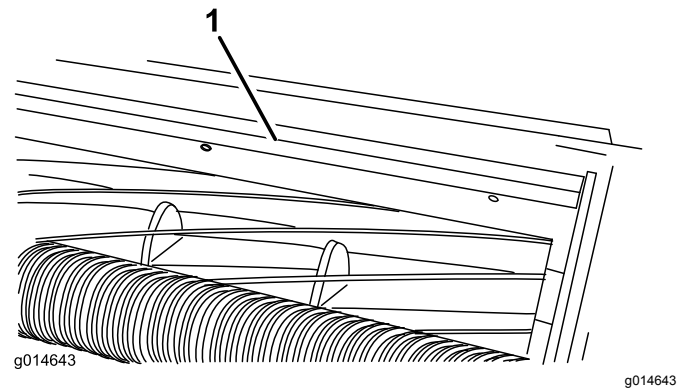

Figure 20
1. Loosen the bolts securing the top bar (Figure 20) to the cutting unit.